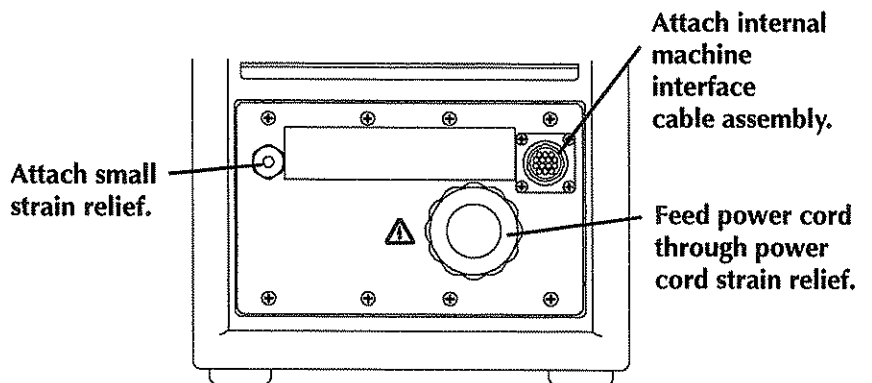

Figure 7 - Machine Torch Power Supply Rear Panel
11. Attach the internal machine interface cable (123099) to the machine torch rear panel - Fig. 7.
12. Attach the small strain relief (008279) to the machine torch power supply rear panel - Fig. 7.
13. Feed the power cord through the power cord strain relief - Fig. 7.